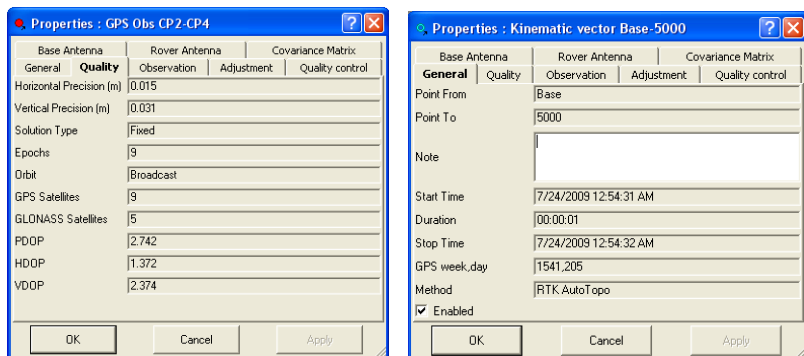

Figure 5-115. General Properties
- View or edit the *General* tab fields (Figure 5-115).